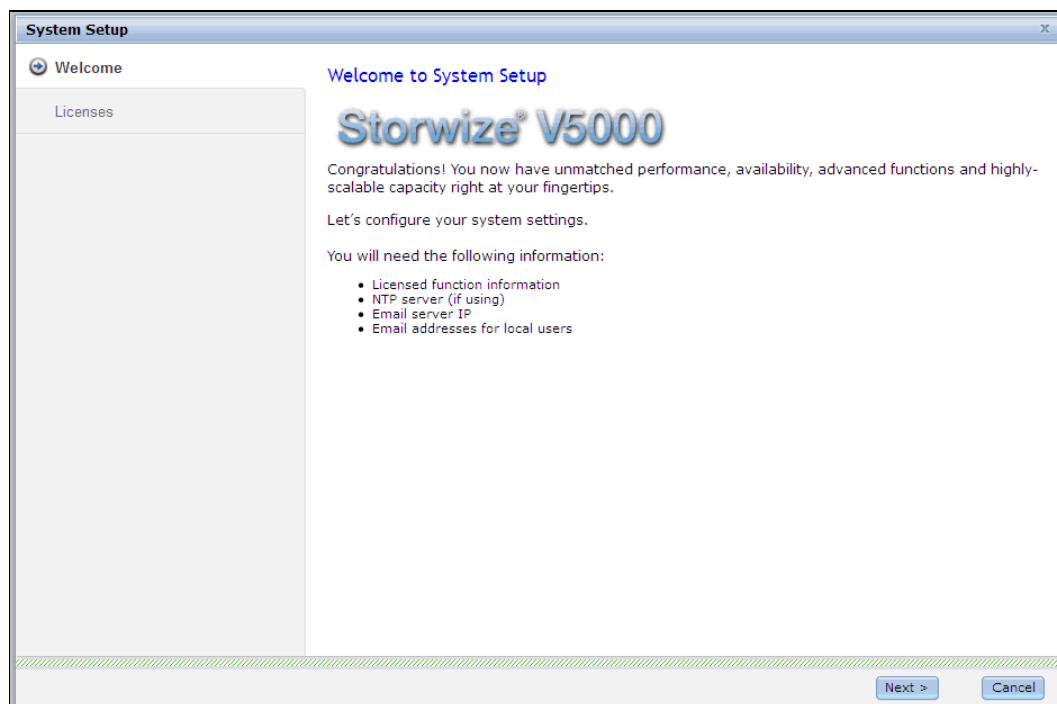

Figure 2-19 Welcome window
2. After you are logged in, a welcome window opens, as shown in Figure 2-19 on page 50.